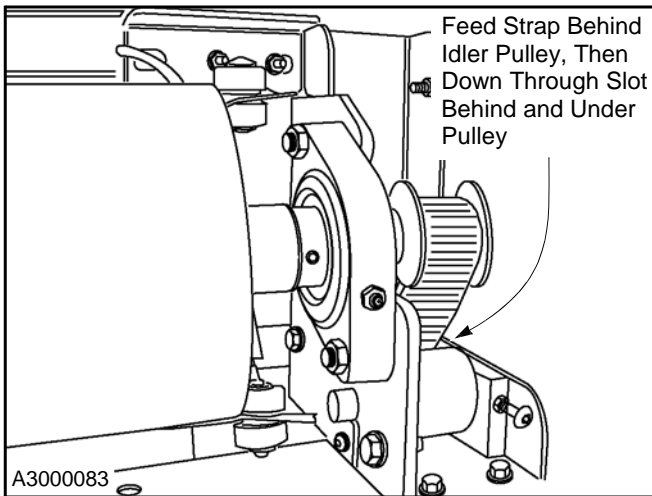

Figure 22
8. Feed the strap through the slot just behind and under the idler pulley. Then allow the entire length of strap to drop down through the side column. (See Figure 22.)